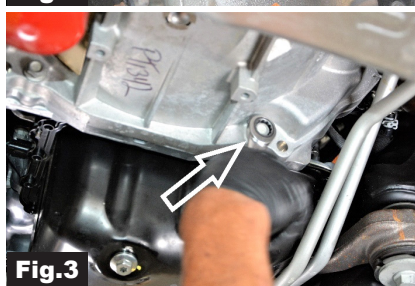

Fig.3
Step 5. Locate the lower bolt on the passenger-side of the bell housing and remove it, making sure to save it. Note the bolt length will need to be trimmed in a later step to accommodate the larger pan. **Fig.3**